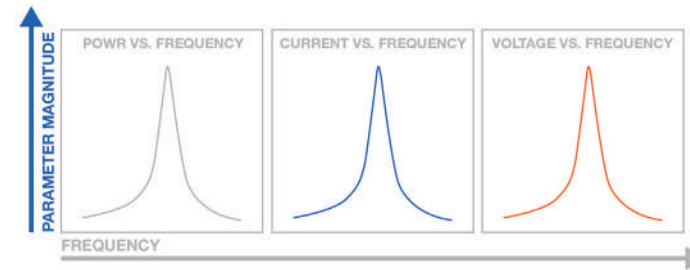
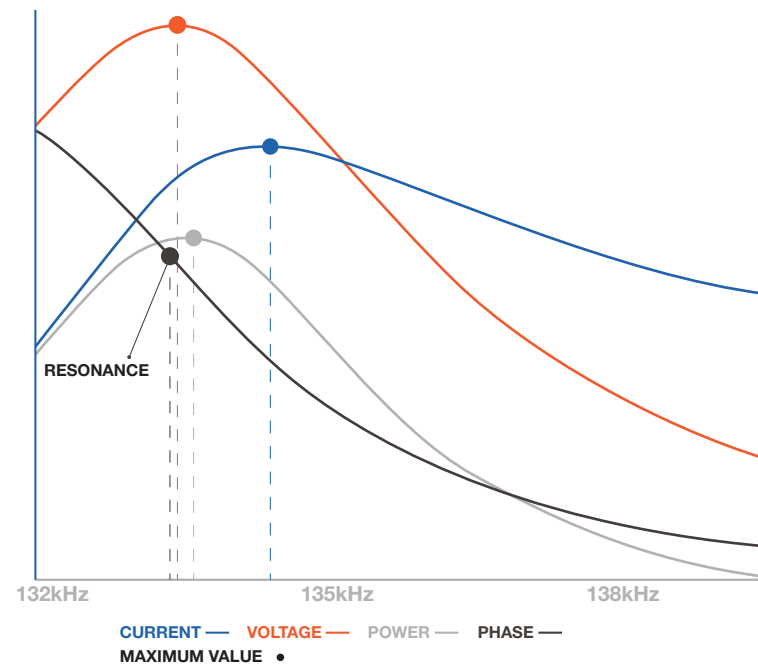

Figure 3-3: Magnitude vs. Frequency (individual plots-all)
Figure 3-4: Magnitude vs. Frequency (narrow range-all)
**Figure 3-3** depicts the representative output characteristics for power, current, and voltage as functions of frequency. These plots represent the typical mid-range output inductor geometry, with a medium to high quality factor, and within a properly tuned load condition. Notice that all three approach maximum in response to some frequency. At this point it is convenient to think of these characteristic curves as representing what is possible as a result of a specific output inductor design and workpiece material type before the induction power supply is actually turned on (temperature change ignored).
The three plots of **Figure 3-3** appear identical, however, their differences become readily apparent once we superimpose all three characteristics and the associated phase characteristic (used to establish the resonance condition), on a single plot and narrow the focus to the area immediately surrounding their maxima (**Figure 3-4**). Notice for this particular case, that, current approaches its maxima first (higher frequency), followed by power, voltage, and the resonance condition. Considering, that, real power (useful for heating) is dependent on voltage, current, and phase and that all of these change differently in response to temperature and frequency, shows the complexity associated with the dynamics of these parametric relationships. However, in terms of precision induction heating, they all can be directly related to a single controllable variable, namely, frequency even though they each relate differently to it.